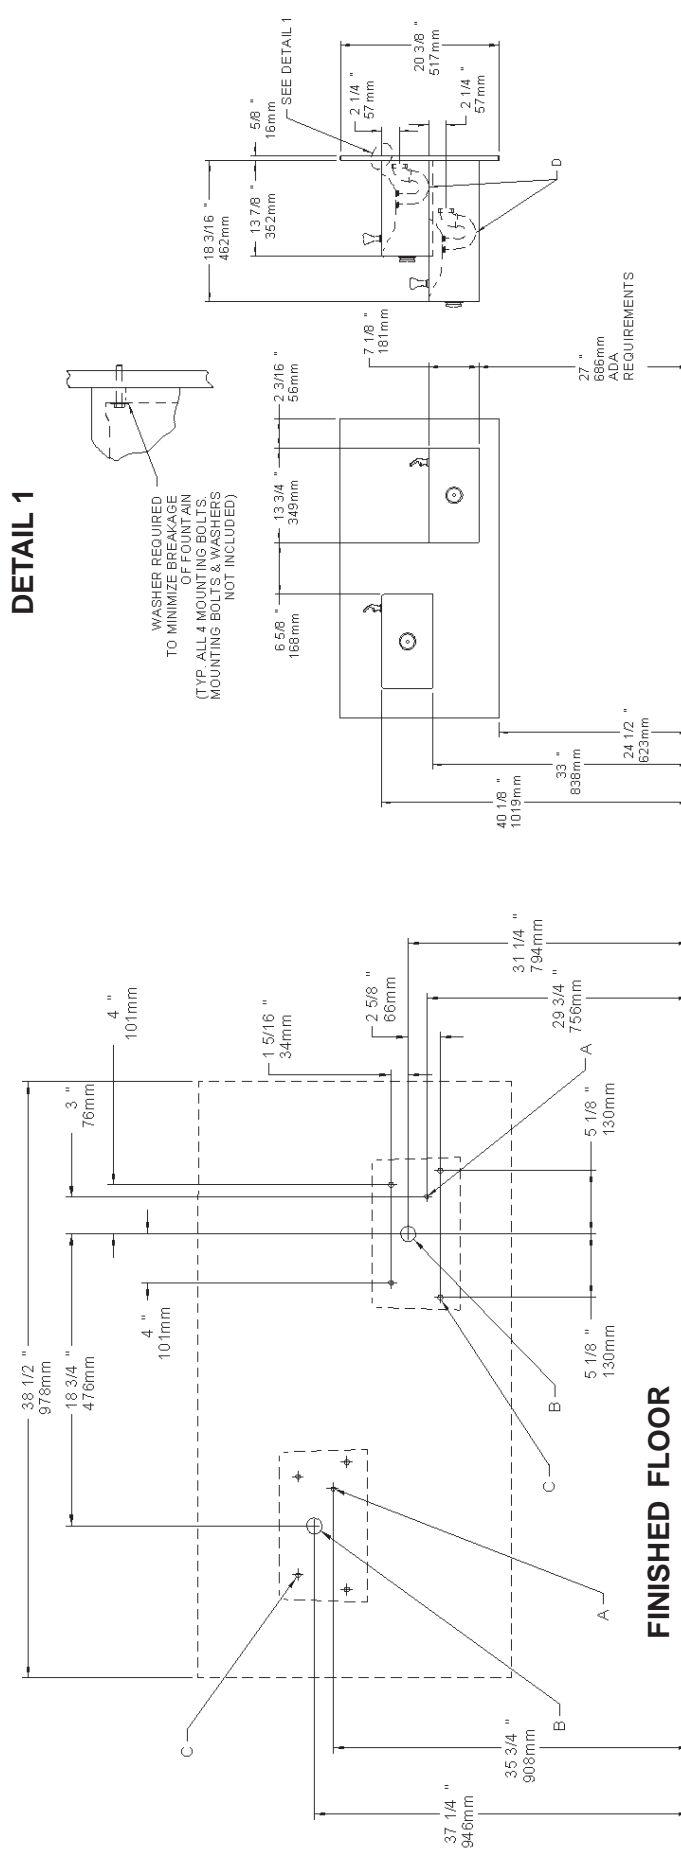

FIG. 2
1. **Wall should already be framed for the fountain** using the positioning dimensions shown in Fig. 2. Shown dimensions pertain to installation location (framing must support up to 150 lbs. weight).
2. **Install rough-in plumbing** as shown in Fig. 2. Run supply water inlet line and connect to a service stop (not provided). Turn on supply water and flush thoroughly. Close water supply.
3. **Remove bottom access panel** from fountain basin and save the screws. Install the fountain to the back panel and wall using (4) 5/16" bolts and washers (not provided). Bolts should be long enough to securely fasten the fountain to the wall. Tighten securely, but do not over tighten. Over tightening will crack the Marblyte Fountain.
4. **Remove elbow from end of p-trap** (item 1) and attach it to drain tube. Re-attach elbow to p-trap and cut waste tube to required length using plumbing hardware and trap as guide.